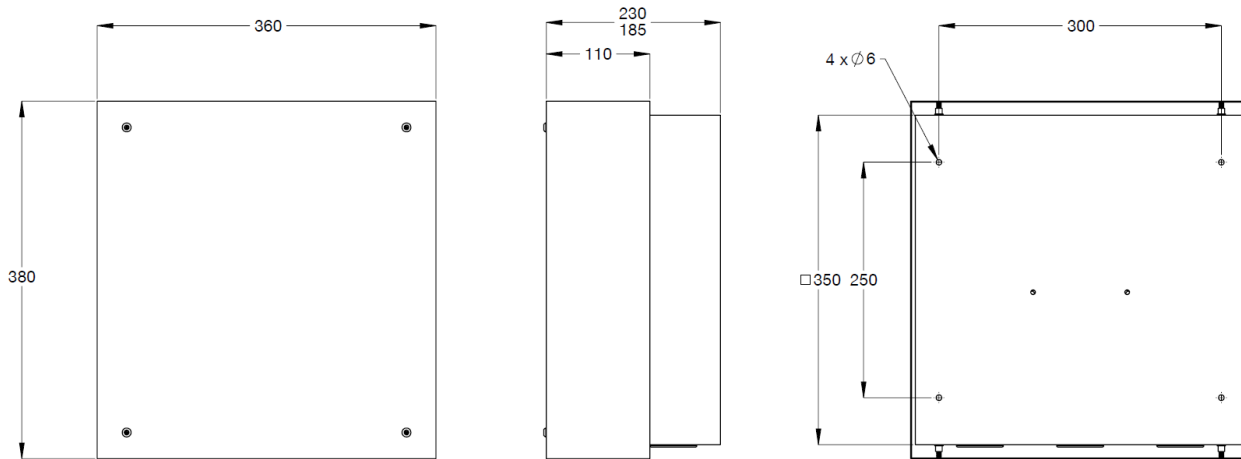

Figure 2: Comes in the kit 190.49.00.90 (individual item code is 190.93.00.10)
- Measure & mark the cabinet mounting hole locations as per the dimensions shown in Figure 2.